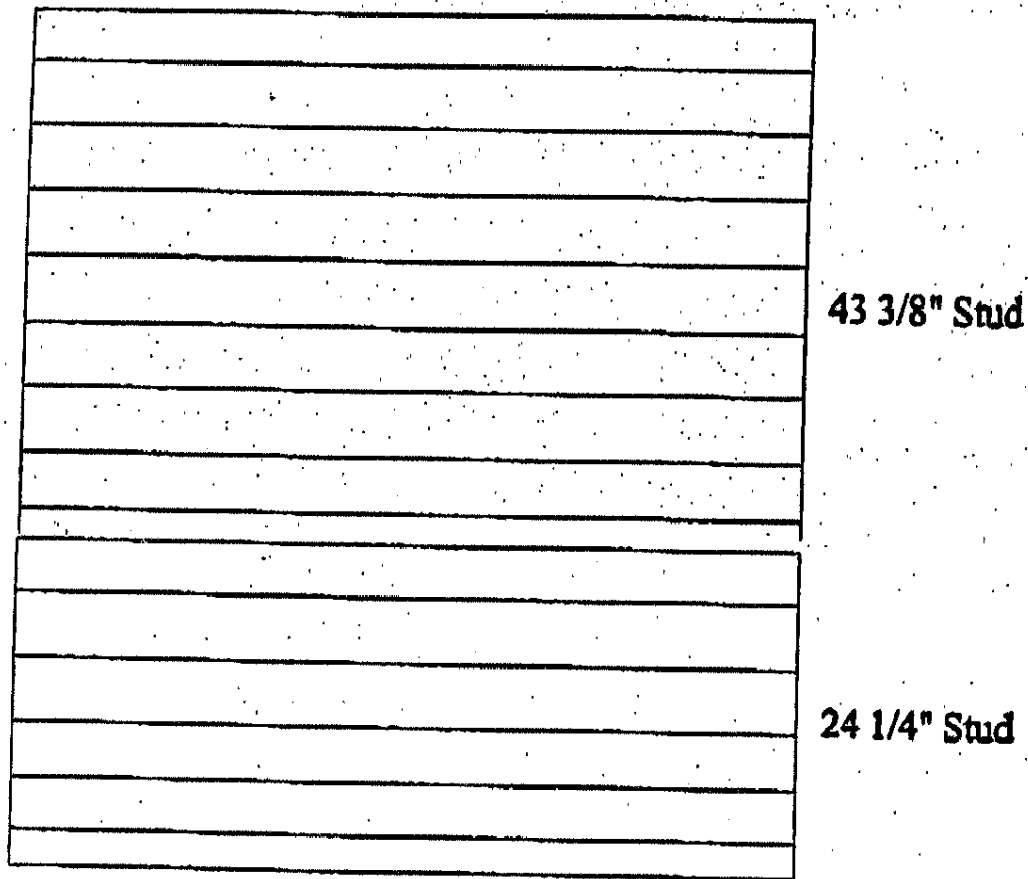

Figure B1
1. Un-package the two floor sections and place them on level ground in the order as shown in Figure B1.